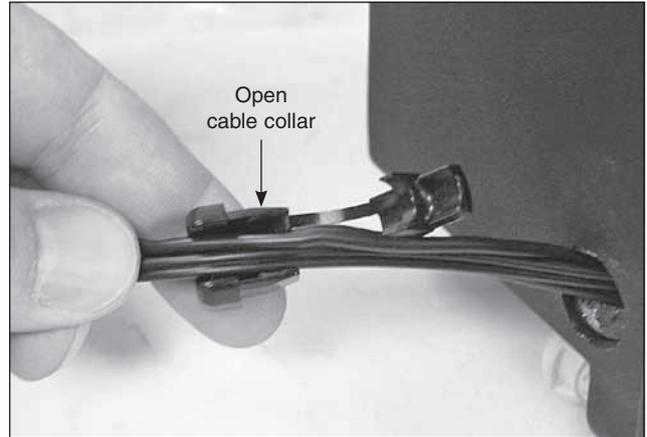
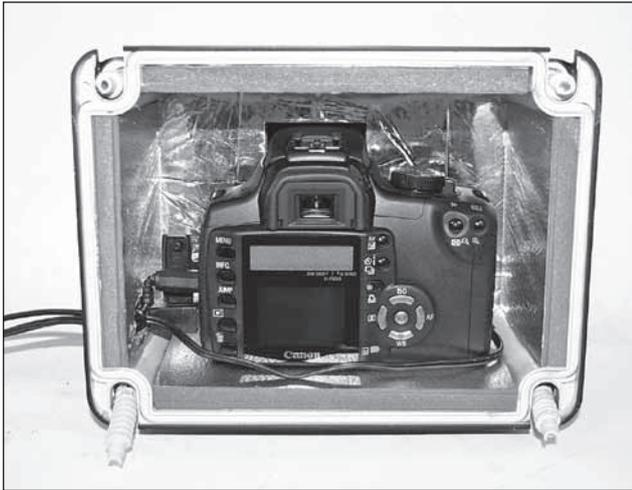

Figure 6. Lay the camera cables in the open cable collar, then close it and re-insert it in the housing.
Figure 7. Here, a Canon 350D is installed in the DSLR Cooler, with cables passing through the cable collar. The cable plugs are a tight fit!
6. Pry open the collar's tab with your fingers or the back end of a pen and lay the cables in (Figure 6). Then close the tab and insert the collar back into the open port. The camera should now appear as in Figure 7.